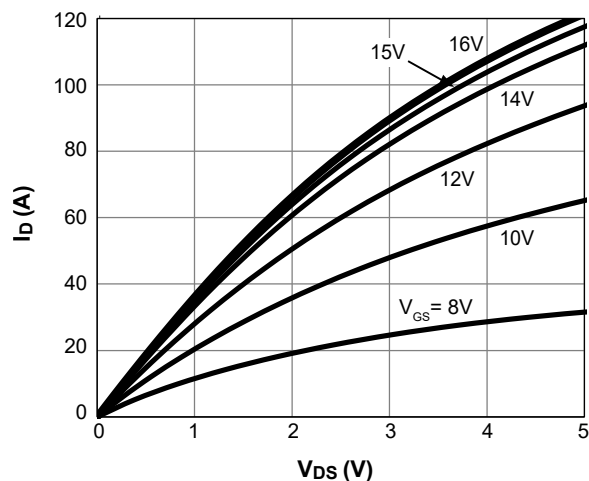

Figure 1. On-region Characteristics $T_J = 25^\circ\text{C}$
H. The static characteristics in Figures 1 to 8 are obtained using $< 300\mu\text{s}$ pulses, duty cycle 0.5% max.